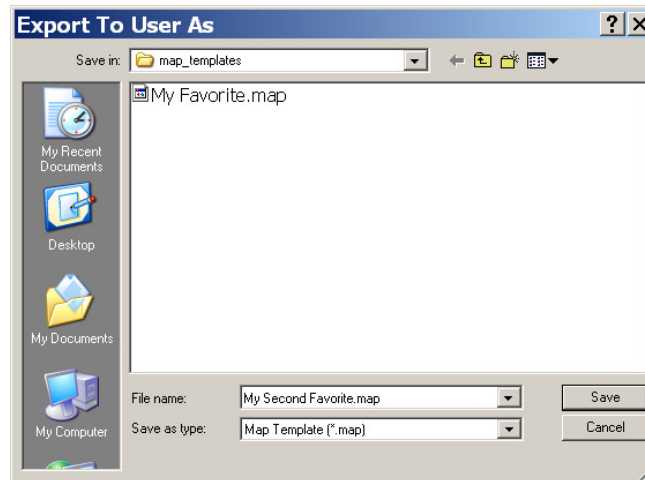

Figure 7. File | Export Map Dialog
- **File | Export Map** displays the **Export To User As** dialog shown in Figure 7. Type the desired name for the *map* file in the **File name:** field. There is no need to add the *.map* extension to the name since the program will add it automatically. The current tubesheet plot (*map*) displayed in DBMS will be exported or *saved* with the filename you choose. This is handy when you want to share a *map* file between two or more projects.